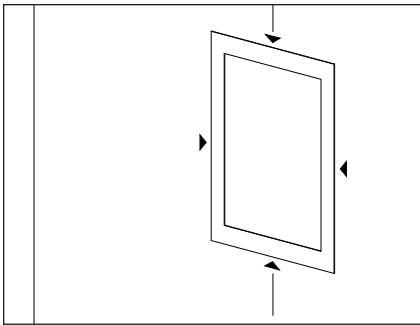

Fig. 5a
- a) Keeping in mind the recommendations for placement provided earlier, place cardboard mounting template onto wall. Cut hole as indicated (Fig. 5a).